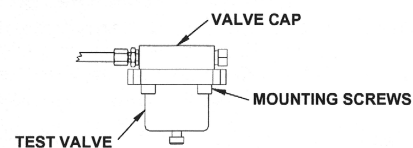

Figure 16.
1. Remove the Valve Cap Assembly(s) from each of the cylinder valves by unscrewing the four (4) 1/4-20 x 7/8 socket head screws holding the valve cap to the cylinder valve.
2. Insert a Test Valve Assembly onto each of the valve cap assemblies and secure with the four screws used with the cylinder. If the indicator screw on the bottom of the test valve is extended out, push the screw back into the body as far as possible. See **Figure 16**.